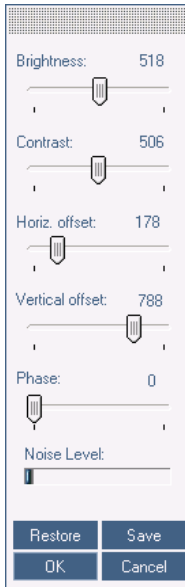

Figure 25 The Video Adjustments controls
1. Select Video / Manual Adjust. The Video Adjustments controls appear see Figure 25. Also a red frame appears around the screen. This represents the screen area according to the Server's screen resolution. Perform the adjustments inside and relative to this frame.